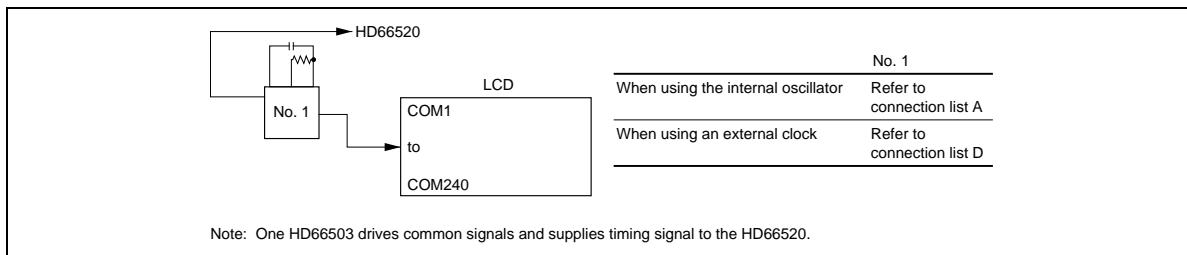

Figure 9 When Using a Single HD66503
The HD66503 system configuration is outlined in Figures 9 and 10. Refer to the connection list (Table 7) for connection details.
- When a single HD66503 is used to configure a small display (Figure 9)